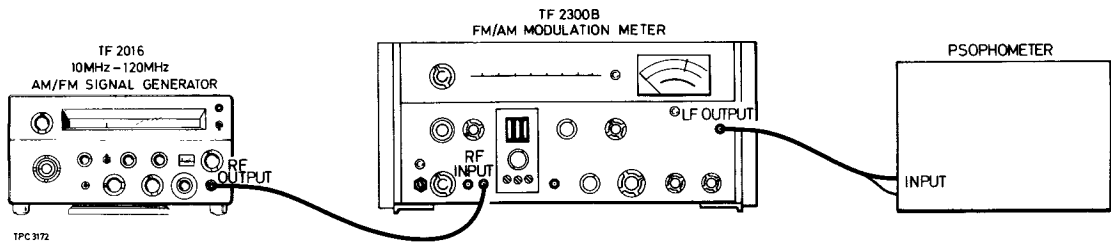

Fig. 4 Checking spurious f.m. on c.w.
- (1) Connect the test equipment as in Fig. 4.
- (2) Set the FUNCTION selector at CW and the CARRIER switch at ON. Then tune TF 2016 to 120 MHz and ensure that the pointer of the MOD/CARRIER meter is within the white box.
- (3) Set the FUNCTION selector at INT FM. Then adjust the SET MOD control to position the pointer of the MOD/CARRIER meter at the centre of the white box.
- (4) Set the DEVIATION multiplier at x1 and the DEVIATION control at 25 kHz.
- (5) Set the psophometer controls as follows :